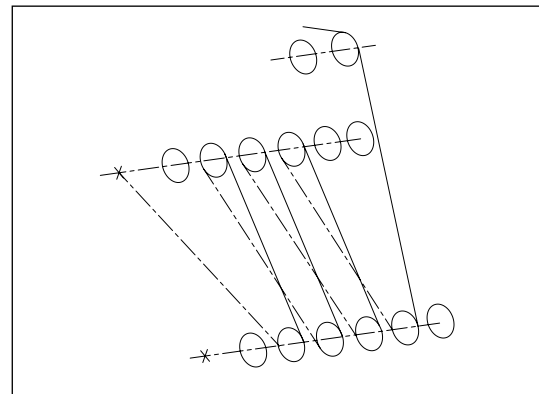

Figure9-30c: Eight-magnification crossing and winding schematic
3. When lift weight with a eight magnification, cross and wind steel wire rope according to the method as shown in Figure9-30c.